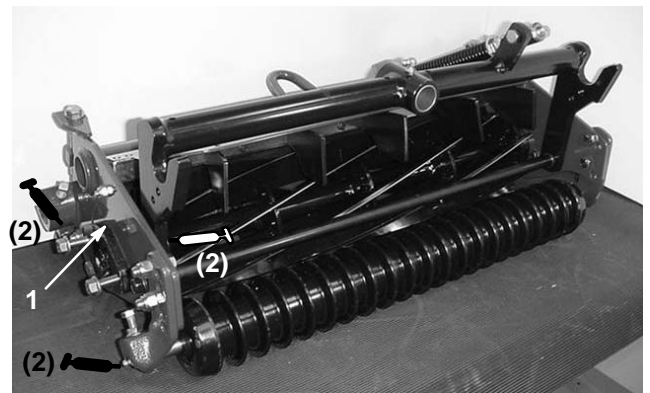

Figure 26
Each cutting unit has six (6) grease fittings that must be lubricated regularly with No. 2 General Purpose Lithium Base Grease (Fig. 26).